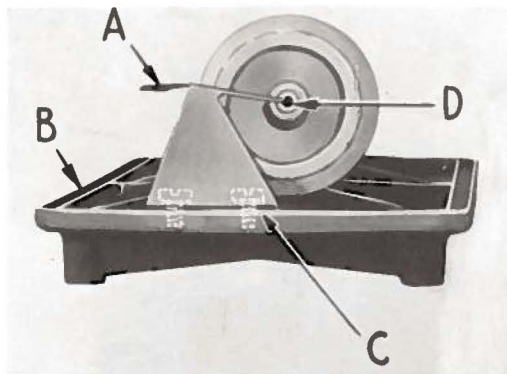

Fig. 3
Lubrication of the mechanism below the cloth plate is automatically accomplished through the feed driving shaft (D, Fig. 3), which is tubular. Oil is introduced into the shaft at the sprocket end by means of an oil distributing plate (A, Fig. 3) which is secured to the bottom cover (B) by means of two screws (C).